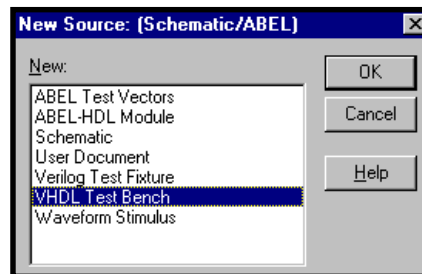

Figure 1-11. New Source Dialog Box
1. Select the **Source** ⇒ **New** menu item from the Project Navigator. The New Source dialog box appears, prompting you to choose the type of the new source in your project (Figure 1-11).